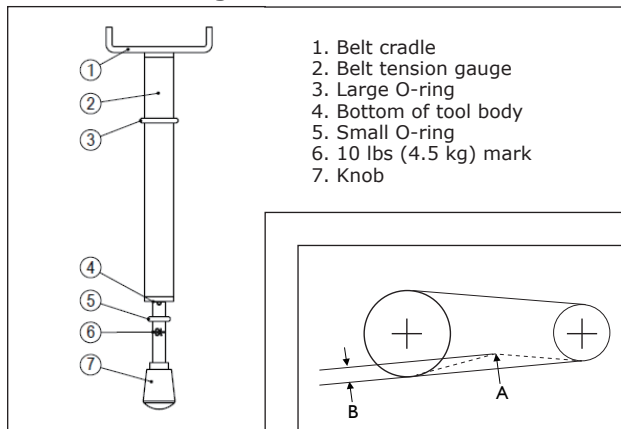

Figure 1. Belt Tension Gauge
5. See Figure 1. Press upward on knob (7) until small O-ring (5) just touches bottom of tool body (4).
9. Push upward on the rubber bumper until the small O-ring (5) just touches the bottom of the tool body (4); this means 10 lbs. has been applied to the belt. If your model does not have a method of determining the amount of belt deflection you can use the large O-ring (3) and graduated scale on the body to calculate the amount of belt deflection. With the U-shaped belt cradle against the lower bottom strand of the belt find a reference point on the bike to align the large O-ring (3) with and record the reading on the graduated scale. After pushing upward on the rubber bumper until the small O-ring (5) just touches the bottom of the tool body (4) align the large O-ring (3) with the same reference point on the bike and record the reading on the graduated scale. The difference between the initial reading and the final reading is the belt deflection at 10 lbs. force. Always refer to the service manual for specific specifications for the model being serviced.